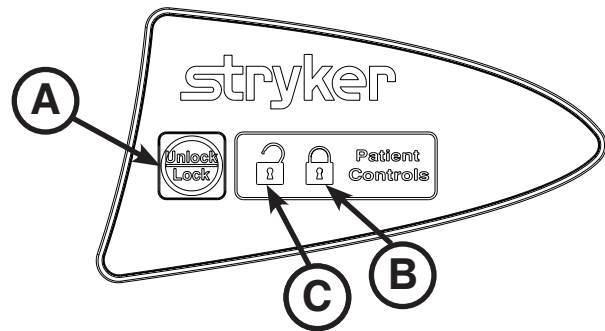

Figure 18: Patient Control Lockout
To lock the siderail patient controls, press the **Lock/Unlock (A)** button as shown in Figure 18. The lock icon (B) is illuminated amber while the patient controls are locked. The foot end nursing controls are not locked.
To unlock the siderail patient controls, press the **Lock/Unlock (A)** button as shown in Figure 18. The unlock icon (C) is illuminated green when the patient controls are unlocked.